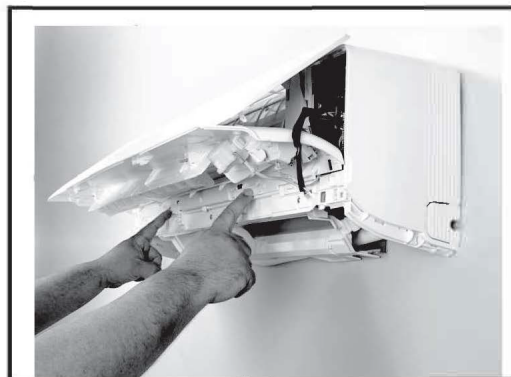
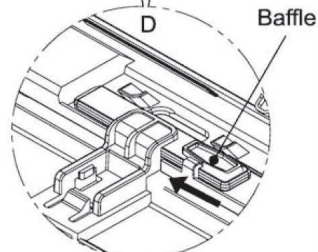

Fig. 415
Fig. 416
- 4) In the C position, open the front shell as shown in Fig. 415. Then in the D position, push the baffles to prevent the front shell from falling as shown in Fig. 416.